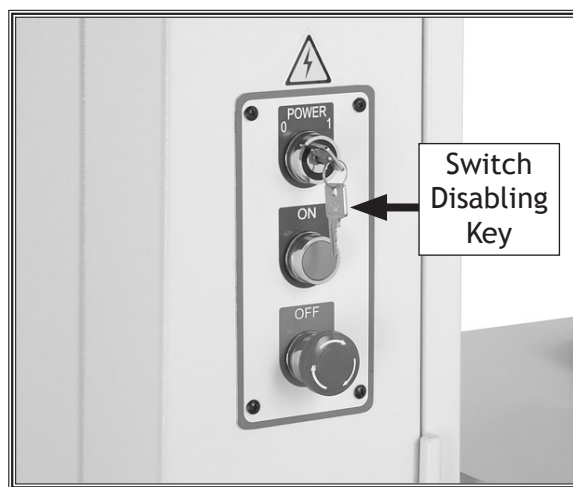

Figure 23. W1770 switch disabling key and ON/OFF switch
4. Verify that the machine is operating correctly by turning the switch disabling key (Figure 23) to "1" and turning the machine **ON**.
11. Turn the switch disabling key to "0", as shown in **Figure 23**.